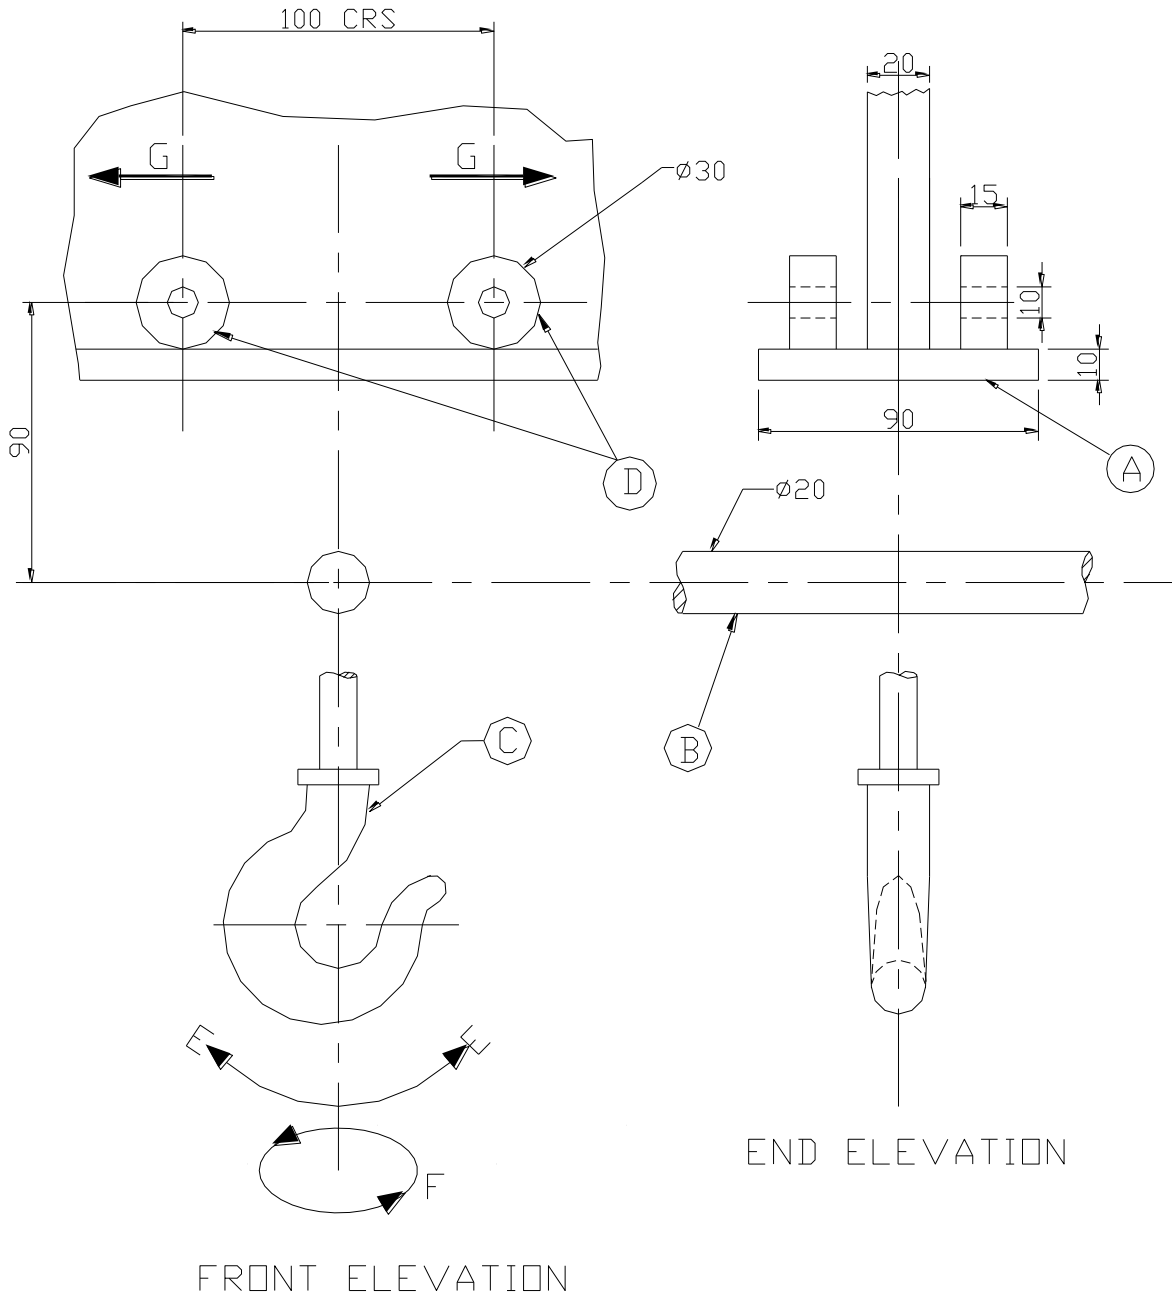

Figure 4
5. Figure 4 shows the general outline of an incomplete arrangement of a hoist and hook unit. The shaft, B, which is placed horizontally, supports the hook, C, and is held in position by a housing.